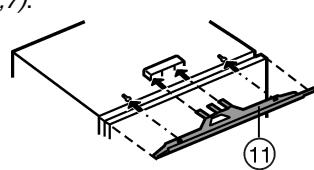

Fig. 9
► Fit the equaliser trim Fig. 9 (11) concentrically onto the appliance: Slide it into the recess and engage it in the keyholes.